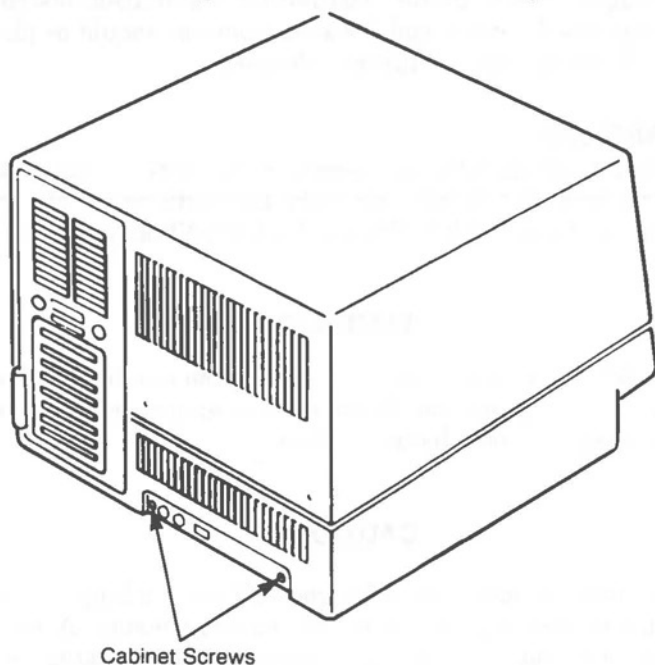

Figure 3-1 Cabinet Removal
3. With a screwdriver, remove the two screws in the lower back of the cabinet (see Figure 3-1).
2. Replace the two screws into the lower back of the cabinet (refer to Figure 3-1).